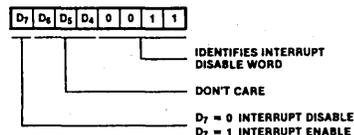

Figure 11. Interrupt Disable Word
**Interrupt Disable.** There is one other control word which can be used to enable or disable a port interrupt. It can be used without changing the rest of the interrupt control word (Figure 11).